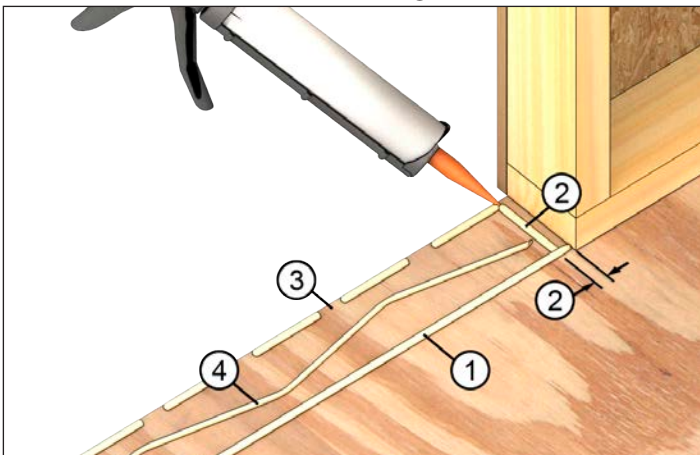

Figure 10
10. Slightly compress the jamb weather strip and apply adhesive corner weather seal pad to the door jamb at the sill on both the hinge side and the strike side. See figure 10.
2. Apply a 3/8" (10) bead of adhesive on the subfloor at the interior edge of the door opening. Apply a bead of sealant 1/2" (13) from both ends of the rough opening that run interior to exterior. Apply a discontinuous bead at the exterior. Gaps should be about 1-2" (25-51) wide and start 2-4" (51-102) from the ends. Finally, lay another bead approximately 2 1/4" (57) from the interior bead in a slight wobble pattern. Adhesive beads should contact the interior and exterior flat portions of the sill as well as the center rib. See Figure 10.